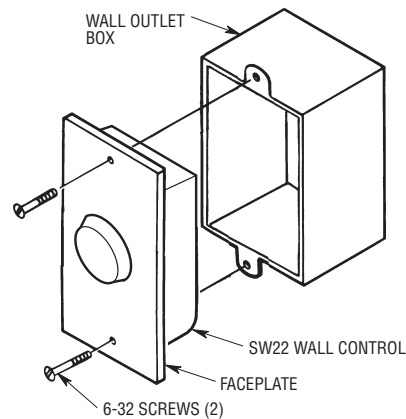

Figure 19
- 4. Position the faceplate (not provided) onto the speed control. Using the two 6-32 screws supplied with the faceplate, screw the faceplate and speed control to the wall outlet box (Figure 19).